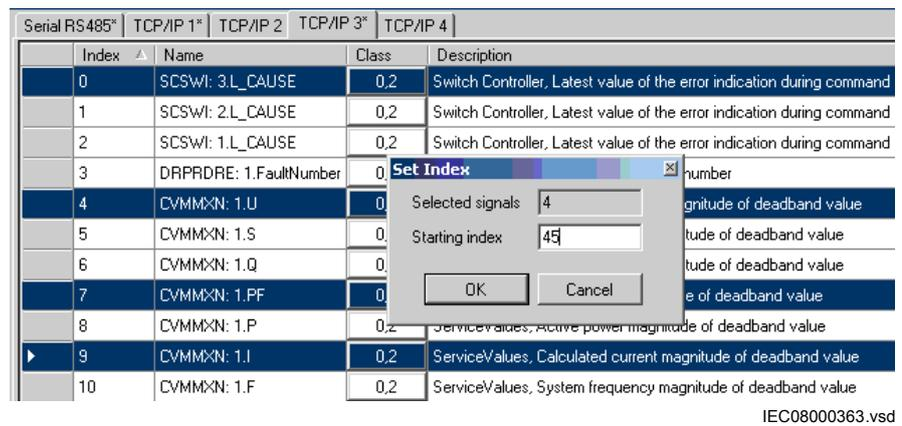

Figure 78: CMT: Set Index menu
- The selection window shows the number of signals selected, see Figure 78.